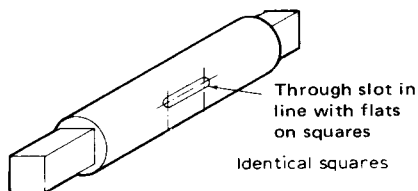

Fig. 3.83
12. Using the standard conventions make two- or three-view drawings of the parts shown in Figs 3.83 and 3.84.